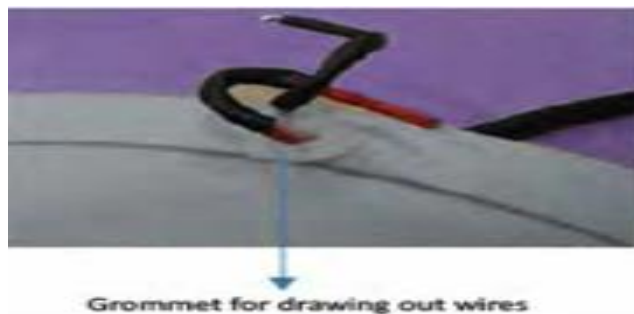

Fig. 2.28: grommet in round panel light
10. A grommet is placed on the aluminum back plate to keep the wires stiff as shown below in Figure 2.28.